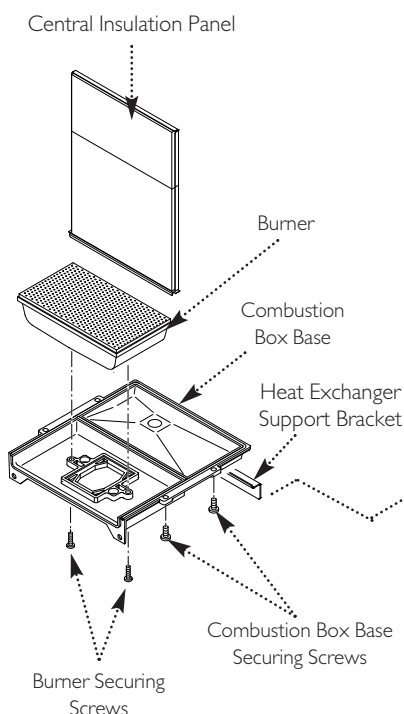

Fig. 44
- g) Remove the two screws securing the burner and remove the burner. Visually inspect the internal burner baffle for obstruction. Clean and if necessary replace the burner (Fig. 44).
- h) Loosen the two screws retaining the heat exchanger support bracket and slide to the left to remove (Fig. 44).
- j) Lower the central insulation panel and check condition (Fig. 44). Replace the lower insulation pad if necessary.